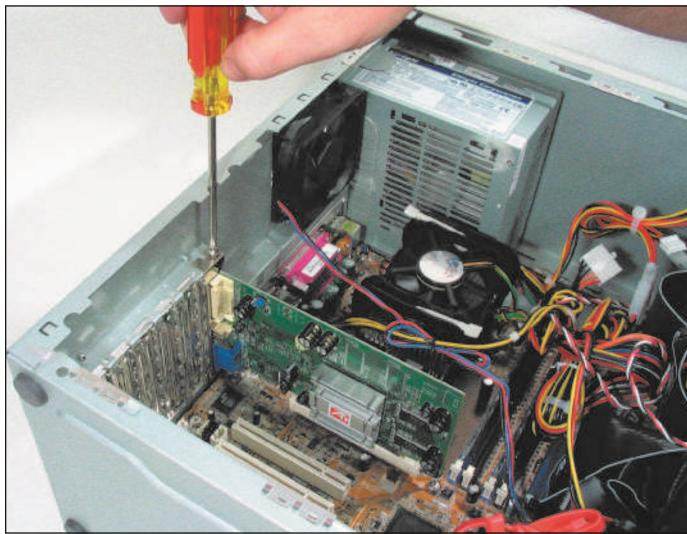

Figure 2-10 Remove the screw holding an expansion card to the case
2. Remove the screw holding the card to the case (see Figure 2-10).